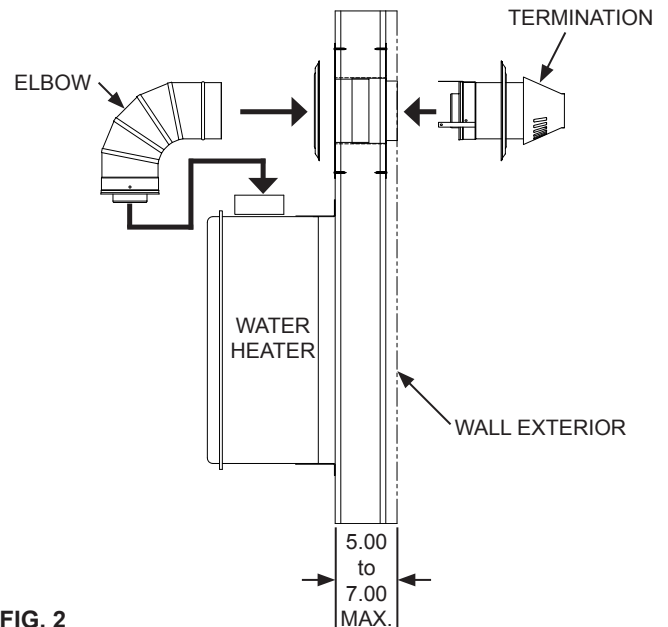
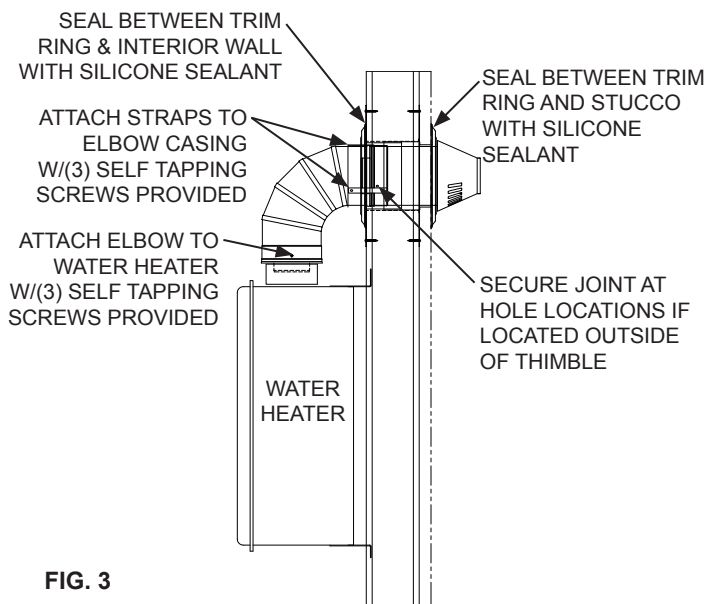

FIG. 2
FIG. 3
Attach the 90 degree elbow to the appliance using (3) each #8 x 1/2" long sheet metal screws provided as shown in **FIG. 2** and **FIG. 3**. Slide the termination through the thimble from the exterior side of the wall into the elbow joint.
Apply a bead of silicone between the stucco and trim ring that floats on the termination and attach the trim ring to the exterior wall surface. Apply a bead of silicone between the interior wall and trim ring. Attach trim ring to interior wall surface (See **FIG. 3**).